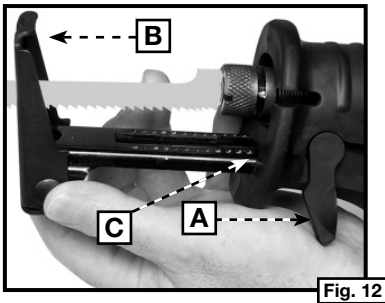
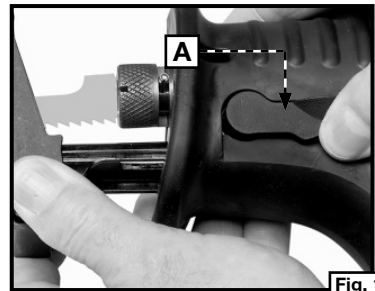

Fig. 12
Fig. 13
To adjust, rotate the lever (A) Fig. 12, releasing the pivoting guide shoe (B). Adjust to the desired position and close the lever (A) Fig. 13. The keyless Quik-Change™ pivoting guide shoe is designed with a raised lip (C) Fig. 12 at the end that prevents the guide shoe from locking in position if it is extended out too far. After adjusting, make sure the locking lever is completely closed in the locked position (A) Fig. 12.